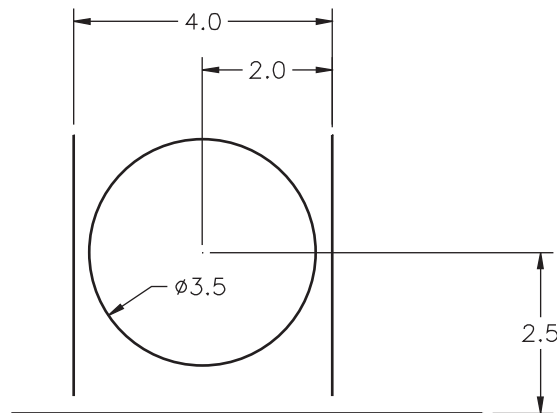
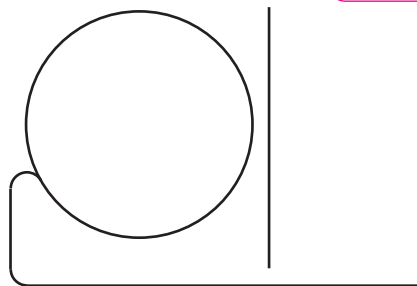
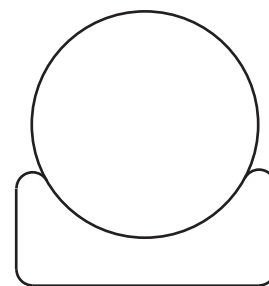

Fig. 16-14
Fig. 16-15
Fig. 16-16
3. Create the roller and cradle for a conveyor. Begin by drawing a circle and three lines, as shown in Fig. 16-14. Specify a fillet radius of **.25** and create the fillets on the left side, as shown in Fig. 16-15. Then fillet the right side. The finished roller and cradle should look like the one in Fig. 16-16.